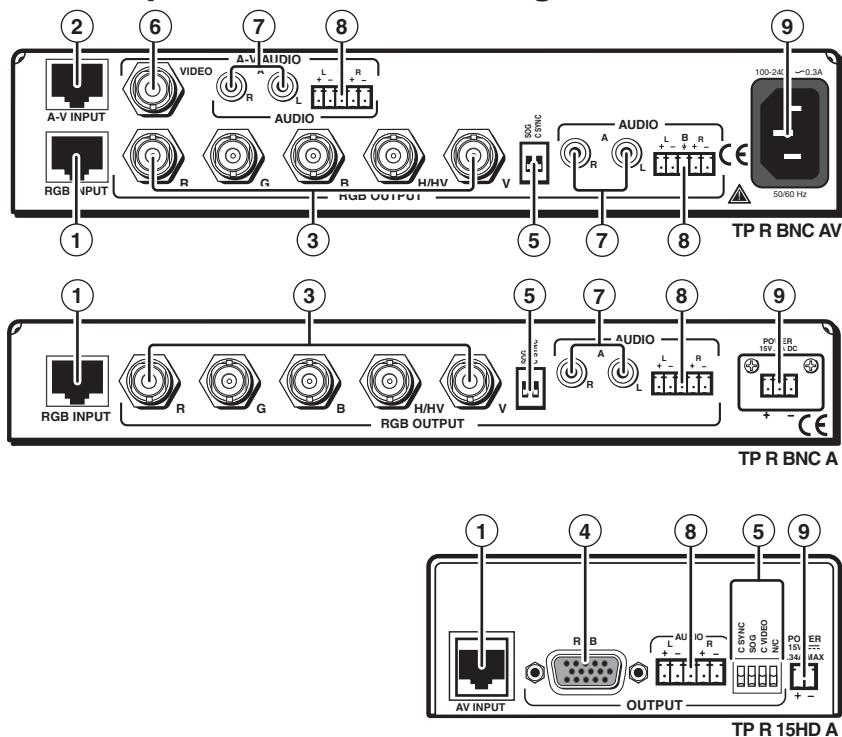

Figure 2-7 — Installation features, TP receivers
- ① **RGB video input connector** — Attach one end of a TP cable to this RJ-45 female connector (see figure 2-7). Attach the other end to an Extron TP 15HD or BNC transmitter. See "Termination of TP cable" on page 2-17 for pin assignments.